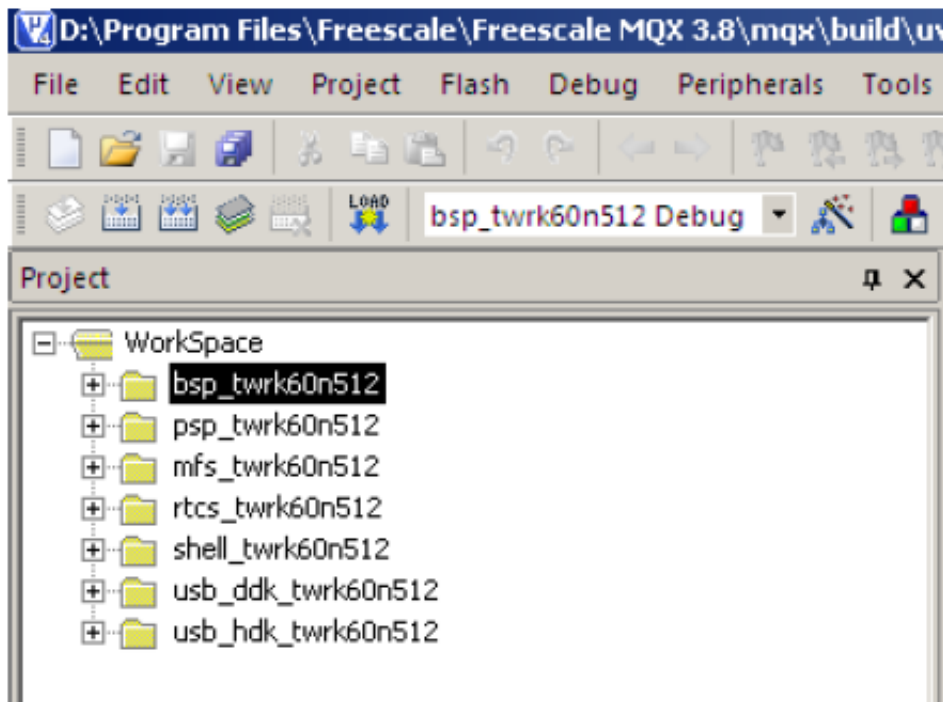
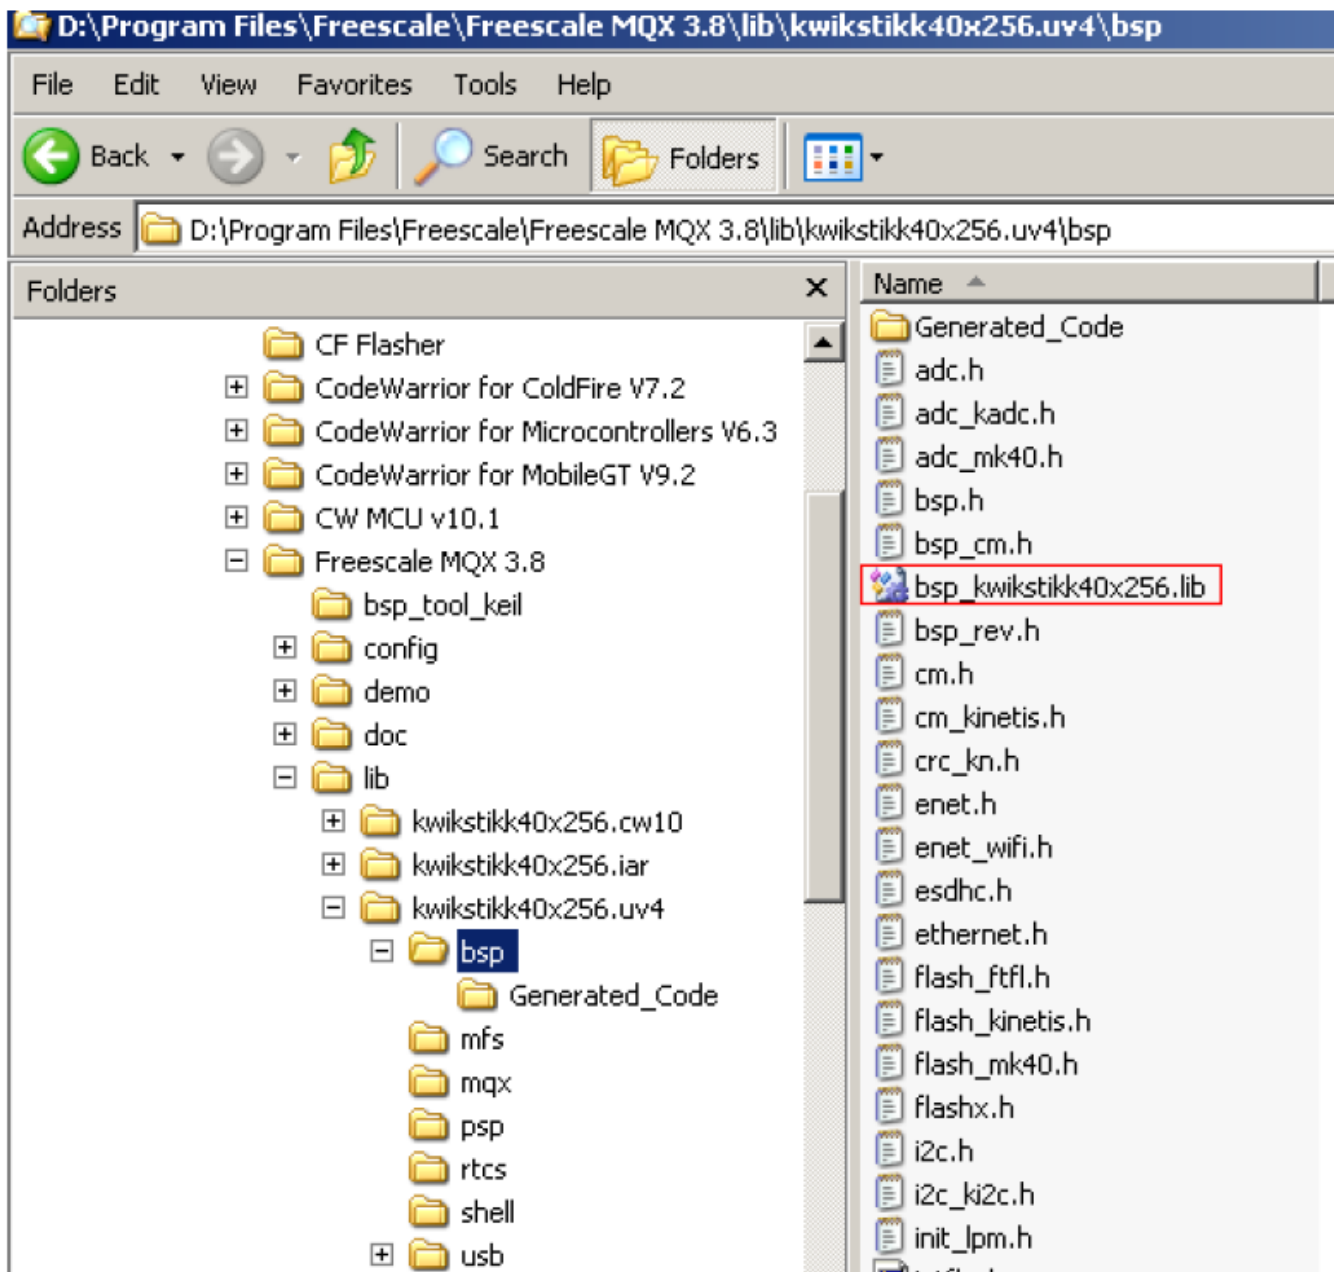

Figure 2. Workspace in <config> folder containing all the MQX components
Figure 3. Output folder of lib
- **build_libs.uvmpw** at <mqx_install>\config\twrk60n512\uv4: This is a workspace build file which includes all the components of MQX including BSP, PSP, MFS, RTCS, SHELL, and USB. See Figure 2. This workspace must be opened to rebuild the components during the development.
- **lib**: This is the output folder for all the projects in Figure 2. It contains the output .lib file and .h file which are used by the application projects. See Figure 3.